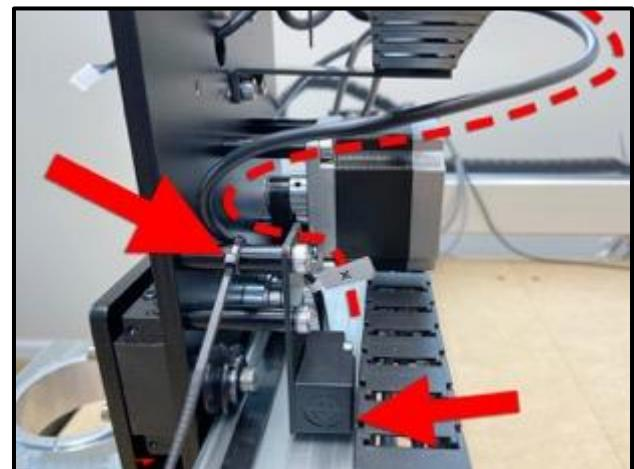

Figure 7-6
4. Route the proximity switch cable and mounting plate behind, then through the loop of the X-Axis drag chain. See *Figure 7-6*.
5. Use the 4mm hex key and two (2) M5x8mm socket head cap screws to install the mounting plate to the two 30mm standoffs at the rear of the Z-Plus. See *Figure 7-6*.
6. Use one (1) cable tie to secure the proximity switch cable to the upper standoff. See *Figure 7-6*.